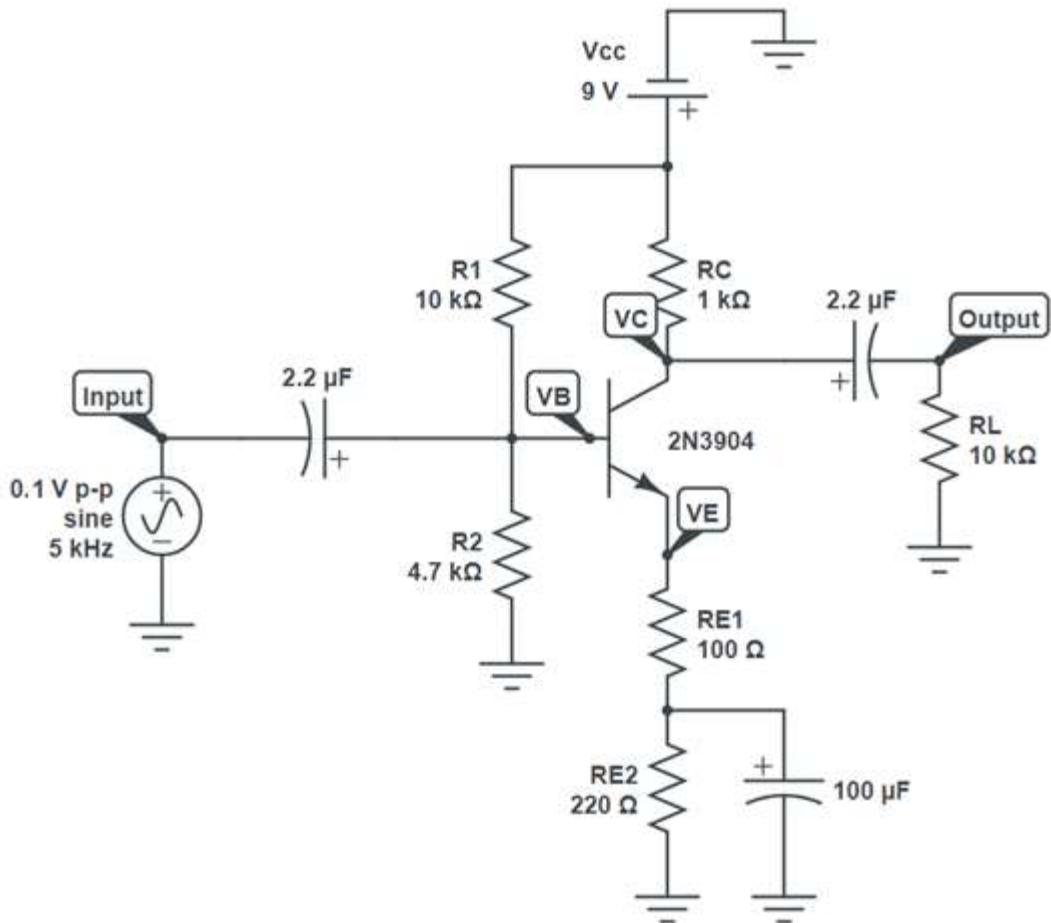
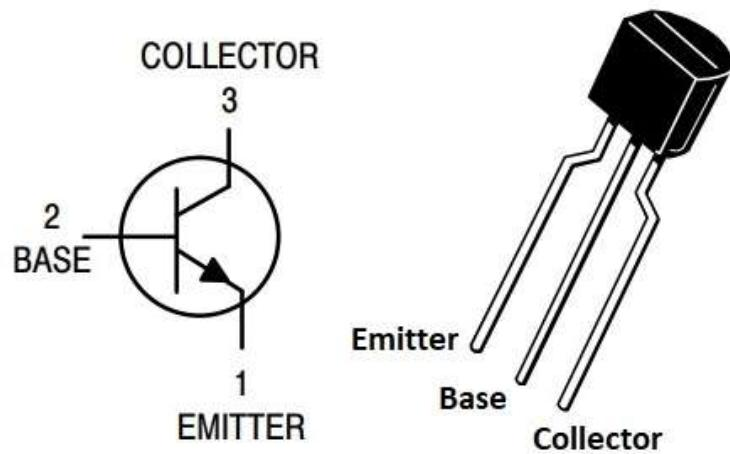

FIGURE 7-1: Schematic Diagram of Circuit
FIGURE 7-2: 2N3904 Transistor Pinout
Build the circuit in Figure 7-1 in PSpice and measure peak-to-peak voltages for both input and output waveforms. What is the phase relationship between the input and output waveforms? Calculate the expected values for Tables 7-1, 7-2, and 7-3 using Useful Formulas at the end of this lab manual.
1. Wire the circuit shown in Figure 7-1, omitting the signal generator and the power supply. The pin diagram for the 2N3904 diode is given in Figure 7-2.
2. After you have checked all connections, apply the 9 V supply voltage to the breadboard. With a multimeter, individually measure the transistor DC base, emitter, and collector voltages with respect to ground, recording your results in Table 7-1. Based on the resistor values of Figure 7-1, determine the expected values of these three voltages, assuming a base-emitter voltage drop of 0.7 V (Equations 6, 7 and 9). Compare these calculated values with the measured values in Table 7-1.
4. Connect the Channel 1 probe of the oscilloscope to the node labeled “Input” (v_{in}) and connect the Channel 2 probe to the node labeled “Output” (v_{out}), as depicted in Figure 7-1. Make sure that the sine wave output level of the signal generator is at 0.2 v_{p-p} at a frequency of 5 kHz.
- 1) Restore the circuit to that of Figure 7-1. With a two-channel oscilloscope, compare the input and output waveforms. What is the phase relationship between v_{in} and v_{out} ?